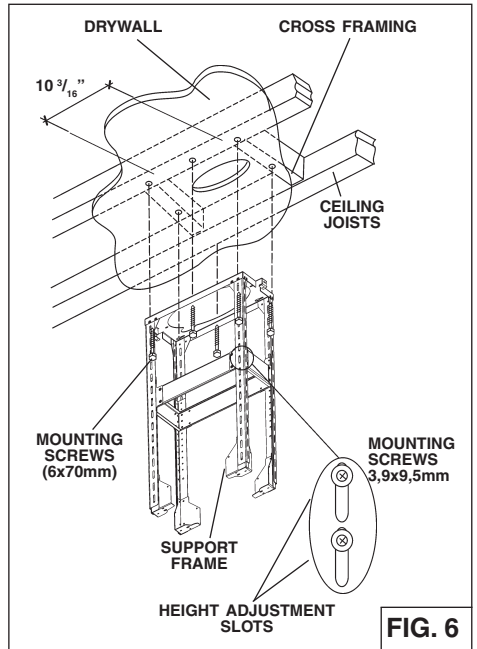

FIG. 6
3. Adjust the overall height using the chart below of the support frame. Loosen and re-tighten the 4 screws in the **height adjustment slots** as necessary. Insert 12 screws (3.9x9.5mm) located in the Hardware Package (Fig.6) make sure this a 4" min. overlap between the upper and lower support legs.